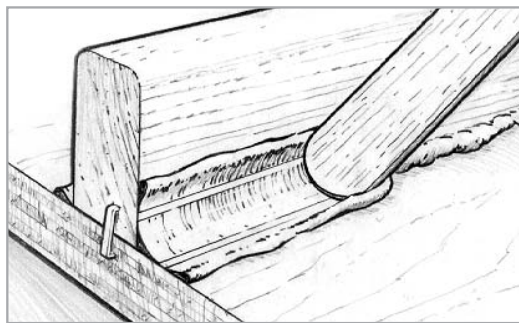

Figure 8-12 Shape and smooth the fillet with a rounded filleting tool.
2. Shape and smooth the squeezed-out thick epoxy into a fillet by drawing a rounded filleting tool (mixing stick) along the joint, dragging excess material ahead of the tool and leaving a smooth cove-shaped fillet bordered on each side by a clean margin. Some excess filleting material will remain outside of the margin (*Figure 8-12*). Use the excess material to re-fill any voids. Smooth the fillet until you are satisfied with its appearance. A mixing stick will leave a fillet with about a $\frac{3}{8}$ " radius. For larger fillets, an 808 Flexible Spreader, cut to shape or bent to the desired radius, works well.